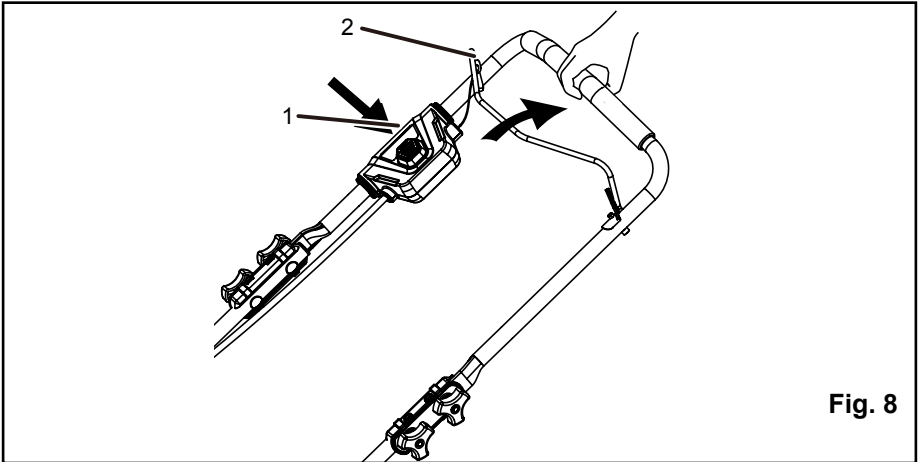

Fig. 8
STARTING/STOPPING THE MOWER (See Figure 8)
- Press and hold the safety lock-out button (1). (See figure 8. A)
- Pull the bail lever (2) upward to the handle to start the mower and release the button. (See figure 8. B)